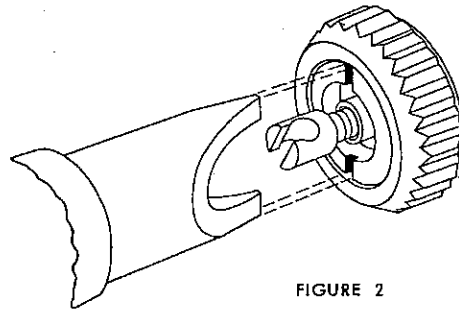

FIGURE 2
- (1) Check the condition and fit of both the bezel and crystal gasket. If they are not in prime condition, replace them. Gaskets are very inexpensive so you can replace them freely.
- (2) Check the seal of the crown gaskets by winding and back winding the crown. A properly sealed crown has a definite drag or resistance under your fingers when you wind or back wind. If there is little or no drag, open the case, take out the movement and withdraw the crown stem; then tighten the gasket nut as shown in Fig. 2 using a two prong sleeve key. This will compress the gaskets and force them into contact with the pipe on the case thus restoring the seal of the crown. When crown gaskets are worn beyond adjustment, a new crown-stem assembly should be installed.